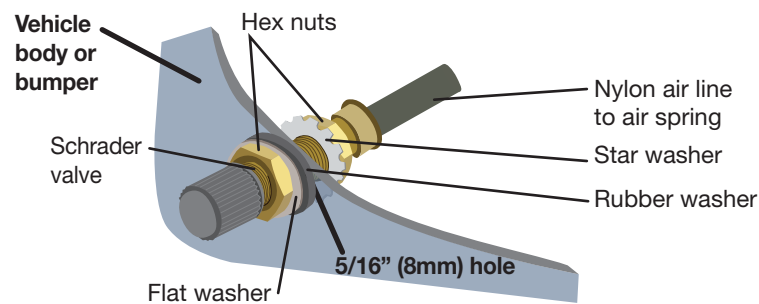

fig. E.3
3. Install the Schrader valve in the chosen location (Fig. E.3).